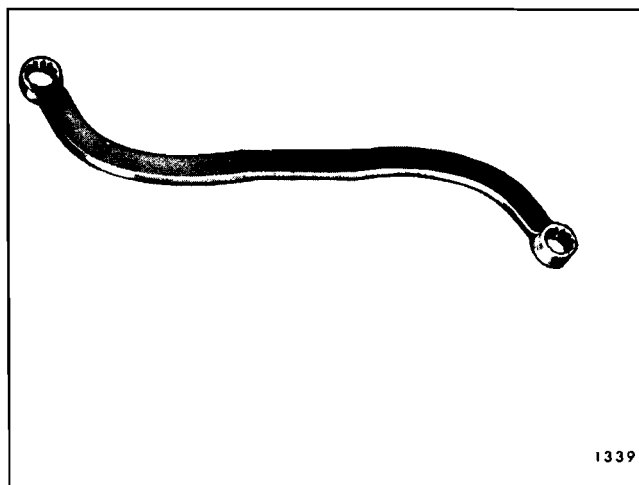

Fig. 6-60—Front Door Hinge Tool J-21550 (1/2" Box) - "F, X & Z" Styles
- a. On "F, X & Z" body styles, use tool J-21550 - 1/2" wrench (Figure 6-60).